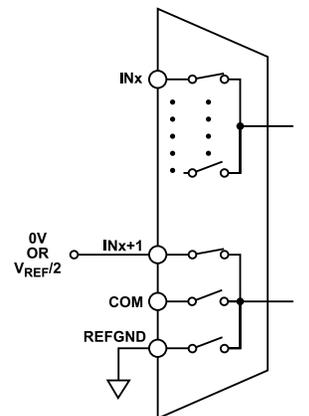

Figure 70. Even-Channel and Odd-Channel Paired
- ▶ Figure 70, even numbered input paired with the next highest odd numbered input (for example, IN0 with IN1, IN2 with IN3, and so on).